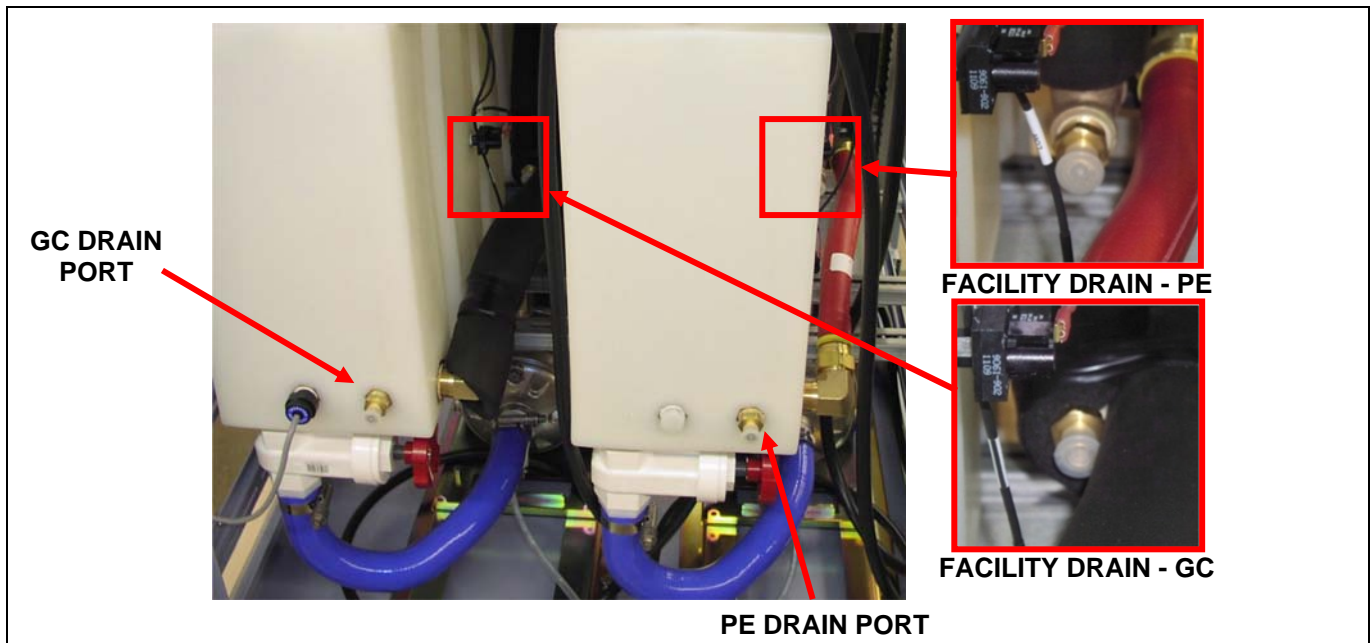

Figure 2: System Drain Ports
Figure 2 shows both the heat exchanger drain Quick Disconnect (QD) and the tank drain. Each of the two heat exchangers and each of the two tanks have a drain.
- Begin by following the procedure above on draining the pump-only circuits and opening the shut off gate valve at bottom of reservoir. While the pump is draining, remove the tank fill cap from both tanks to allow tank to vent. Begin by draining the GC circuit from the tank drain quick disconnect fitting located on the front (or on older models on the right side) of each tank (Figure 2).
- Facility water is drained from the HEC (LCS7397) through the two brass quick disconnects located on the bottom of the PE and GC heat exchangers (Figure 2).